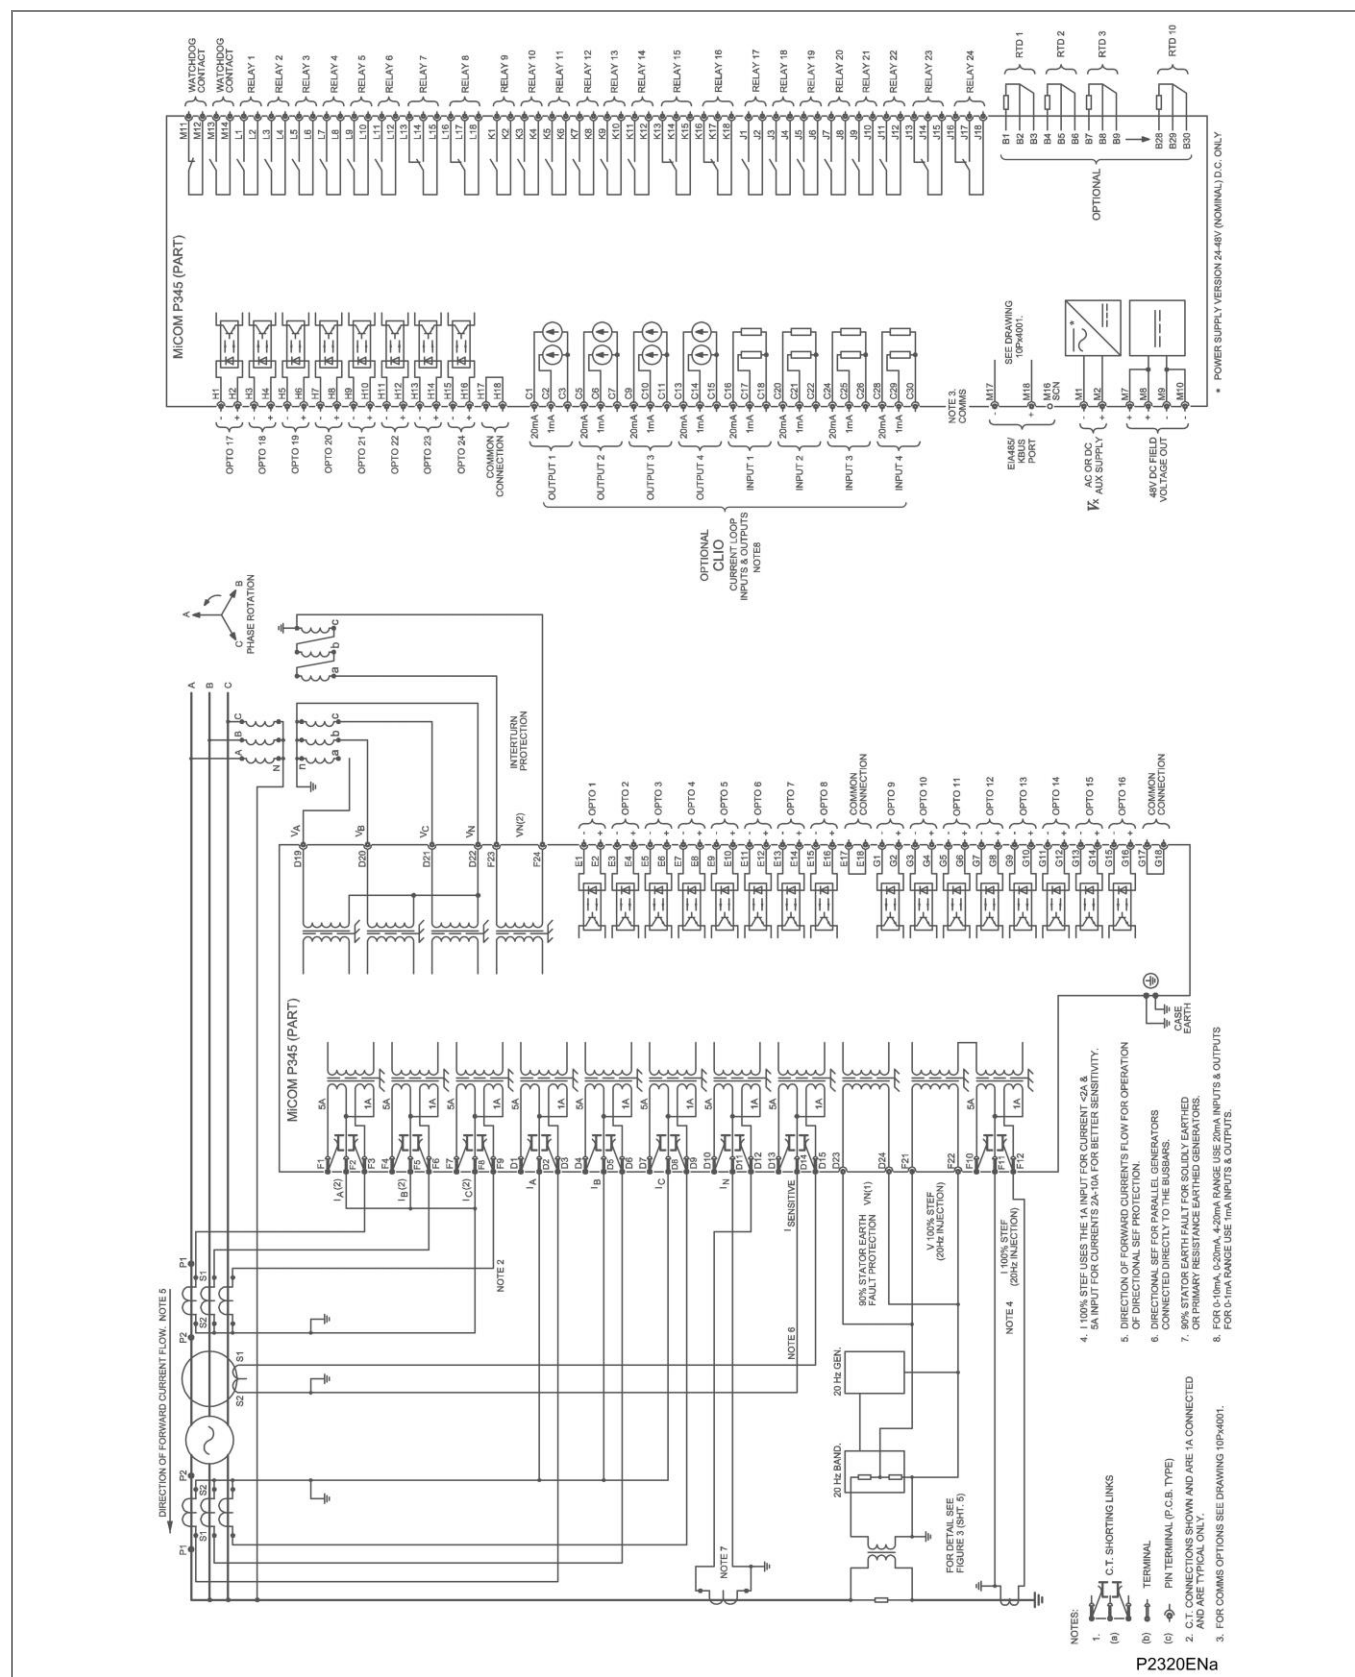

Figure 53 - P345 (80TE) with 100% stator earth fault protection via neutral earthing transformer with primary loading resistor (24 I/P & 24 O/P & CLIO & RTD)
- Figure 53 - P345 (80TE) with 100% stator earth fault protection via neutral earthing transformer with primary loading resistor (24 I/P & 24 O/P & CLIO & RTD)